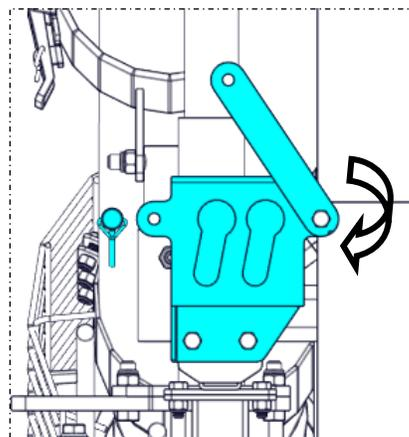

Figure 4.21
- B) Rotate the lock plate counter clockwise (Figure 4.21). If the lock plate is too tight, loosen the bolt at the bottom of the lock plate.